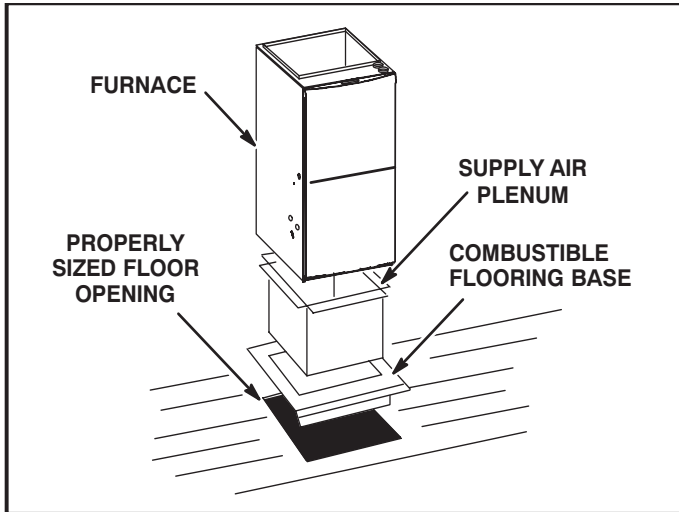

FIGURE 13
**Installation on Combustible Flooring (Figure 13)**